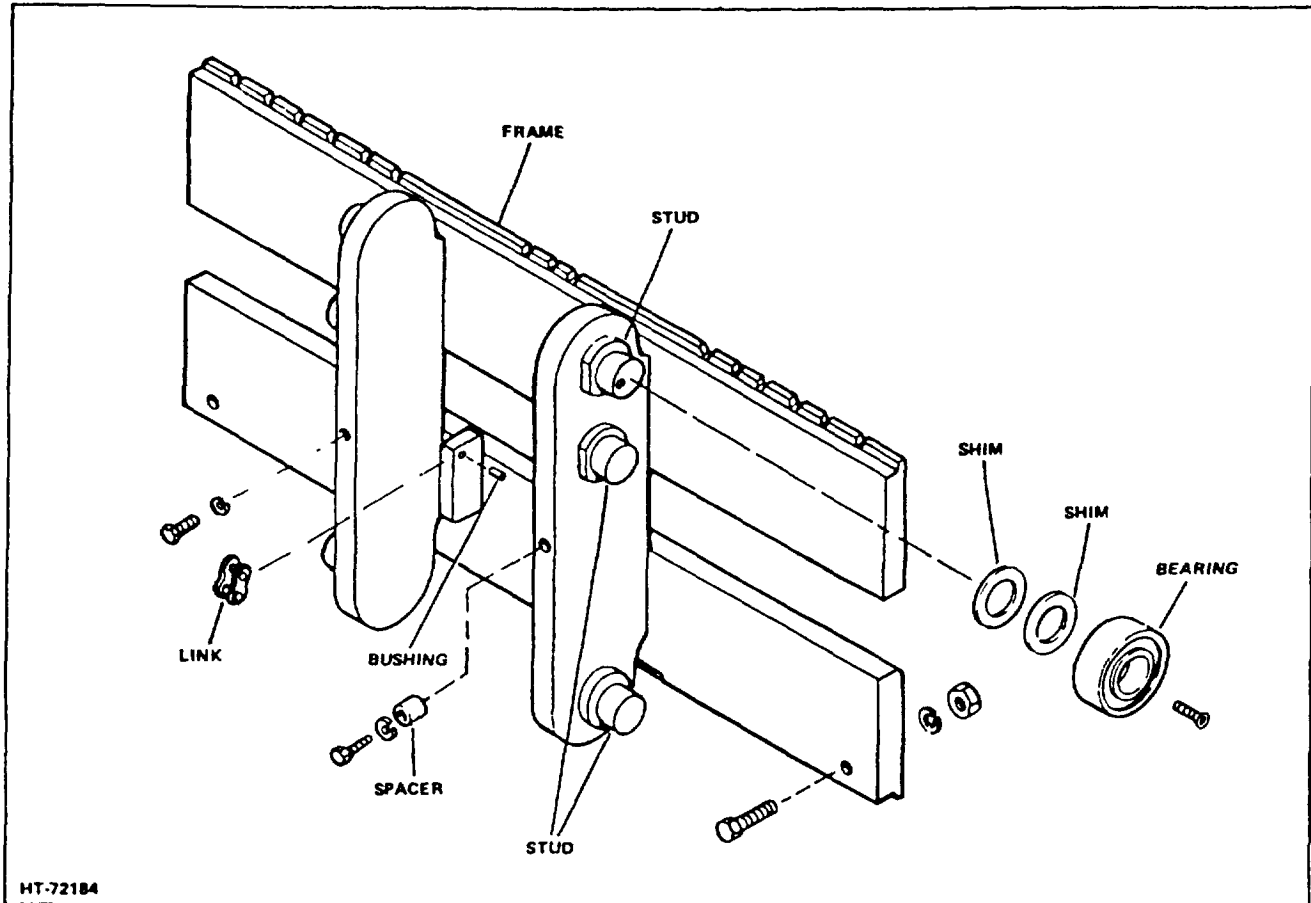
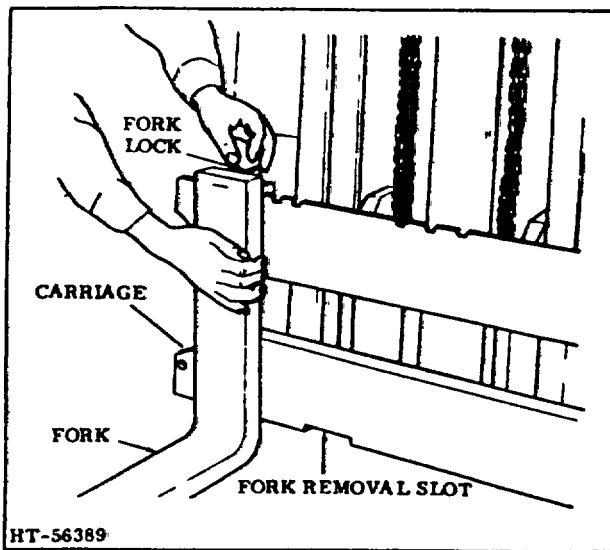

Figure 1. Hook Type Carriage Assembly (Typical)
Figure 6. Fork Adjustment and Removal
The carriage assembly is a heavy duty structure of welded steel, built to provide ultimate strength and visibility, with a minimum of overhang from the center of the drive wheels to the face of the forks. The carriage assemblies are of different types and include: adjustable canted roller bearings (Fig 1), side thrust plug type (Fig 2), shimmed wear plate type (Fig 4), eccentric roller type (Fig 5), and the side thrust roller type (Fig 6). An optional item used in conjunction with the carriage assembly is the backrest. This assembly is a welded metal frame which is attached to the carriage (in front of the uprights vertically), and serves to prevent loads from resting against the mast when the mast is tilted back. It also keeps loads from falling back onto the operator.
F. ADJUSTMENT-CANTED BEARING TYPE (Figure 1)
A fork lock (Figure 6) is installed in the top of each of the hook type forks to hold it in position in one of the notches
The forks can be easily removed from the carriage by releasing the locks and aligning each fork with the wide removal slot (Figure 6) at the bottom of the fork carriage. (Refer to following REMOVAL procedures for detailed instructions.
2. Release the fork lock pin and slide fork to a position over the cut-out in the lower carriage bar (Figure 6).